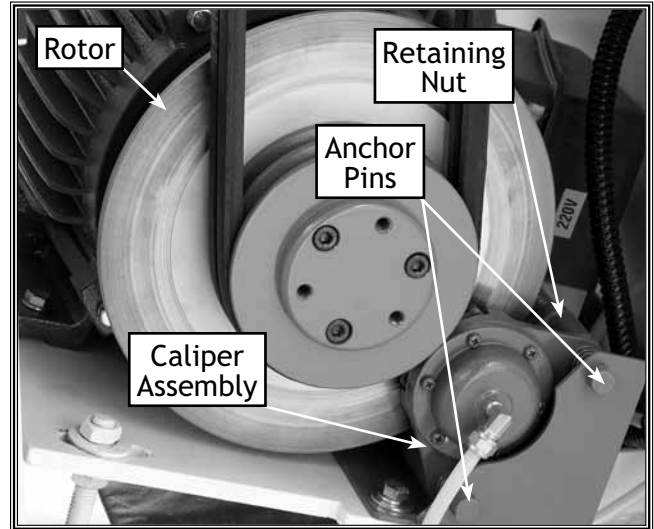

Figure 41. Brake assembly.
Any grease or oil on the emergency brake rotor creates the potential for reduced emergency braking ability. Check the brake rotor (shown in **Figure 41**) regularly to make sure it is clean. If it needs cleaning, only use automotive brake parts cleaner and a dry rag. **DO NOT** use water!
2. Use a 14mm wrench and remove the two caliper anchor pin retaining nuts and washer. See **Figure 41**.
3. Use ViceGrip® or similar pliers to clamp on the anchor pin end and pull the pin from the caliper mount and remove the springs. See **Figure 41**.